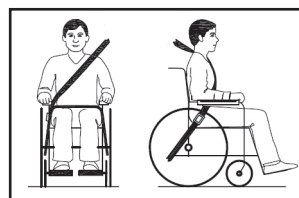

Figure 3
- The lap belt must run over the front of the body following the line where the hip and the pelvis meet. The belt must closely follow the body here. The top belt must fully support the occupant as illustrated in Figure 3.